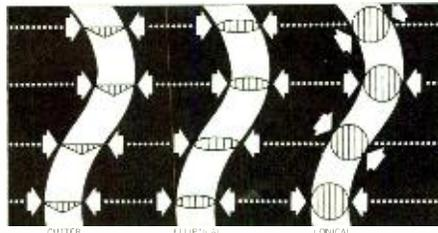

Fig. 1. Tracing groove modulation.
The stylus used in cutting a record has a wedge shape similar to that shown in (A) of Fig. 1. The object when playing a record is to have the playback stylus move in exactly the same manner that the cutting stylus moved when it produced the master record. An exact reproduction of this motion cannot be accomplished with a round-tipped stylus because the point of tangency between the round stylus and the record changes as a function of the modulation of the groove (see Fig. 1). Although the change in this point of tangency is small, there is some calculable and measureable deviation in the motion of the playback stylus as compared to the cutting stylus. This difference in motion results in what is termed "tracing distortion." This distortion is proportional to frequency and cutting velocity, and inversely proportional to groove speed squared. Stated in other terms, tracing distortion is most noticeable towards the center of the record for highly modulated passages containing high frequencies.
able on lateral records when played with a stereo cartridge. Referring again to Fig. 1, it can be observed that the groove cut by the wedged shaped stylus will be such as to impart a vertical motion to a playback stylus with a round tip. Note that the perpendicular distance between points of tangency for the round tip is smaller where the sine wave crosses the zero axis that it is at the peaks of the wave. Since stereo cartridges respond to vertical as well as horizontal motion an electrical output will be produced. This output is primarily a second harmonic of the lateral modulation.